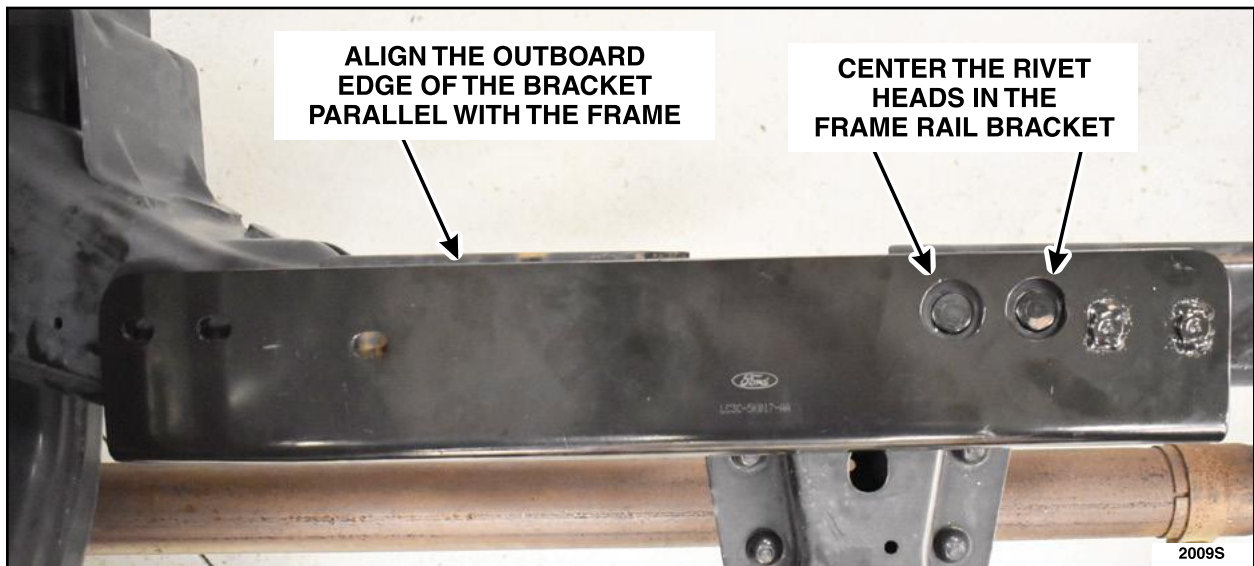

FIGURE 18
20. With the bracket setting flush against the top of the frame, ensure that the outboard edge is flush with the frame and the rivet heads are centered in the bracket openings. Secure the bracket to the frame rail with a clamp. See Figures 18 and 19.